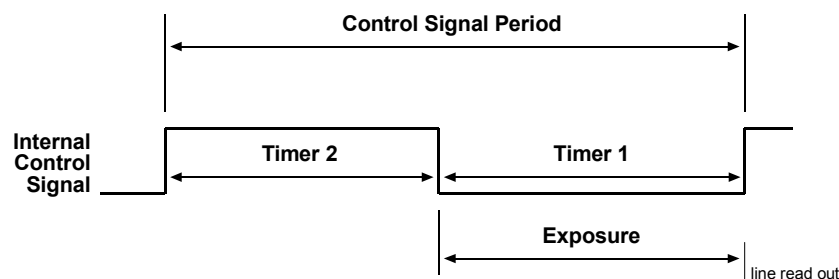

Figure 3-6: Free-run, Programmable Mode
- In **free-run, programmable mode**, the pixels are exposed and charge is accumulated when the internal control signal is low. The line is read out and transferred on the rising edge of internal control signal (see Figure 3-6).